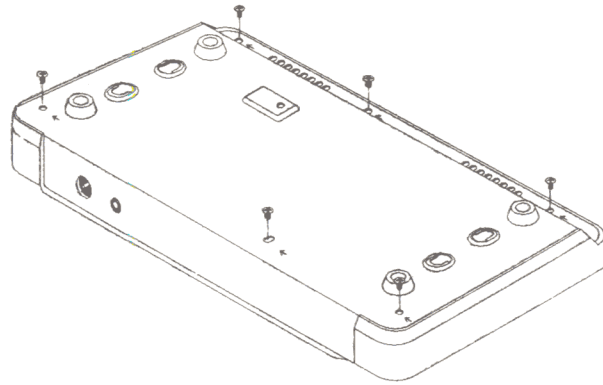

Figure 2-4-3 Open the metal case on the bottom of the HB-402P
- step 2. Open the metal case of HB402P by turning the bottom screws counterclockwise until they come out. (see Figure 2-4-3)